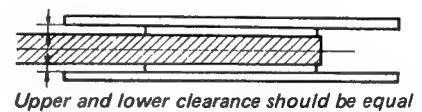

Fig. 5-1-11. Reel table height adjustment (2)
2. See Fig. 5-1-11. Adjust the height of the take-up reel table by loosening the set screws with an allen wrench so that the tape is on the middle portion between the upper and lower flanges of the reel.